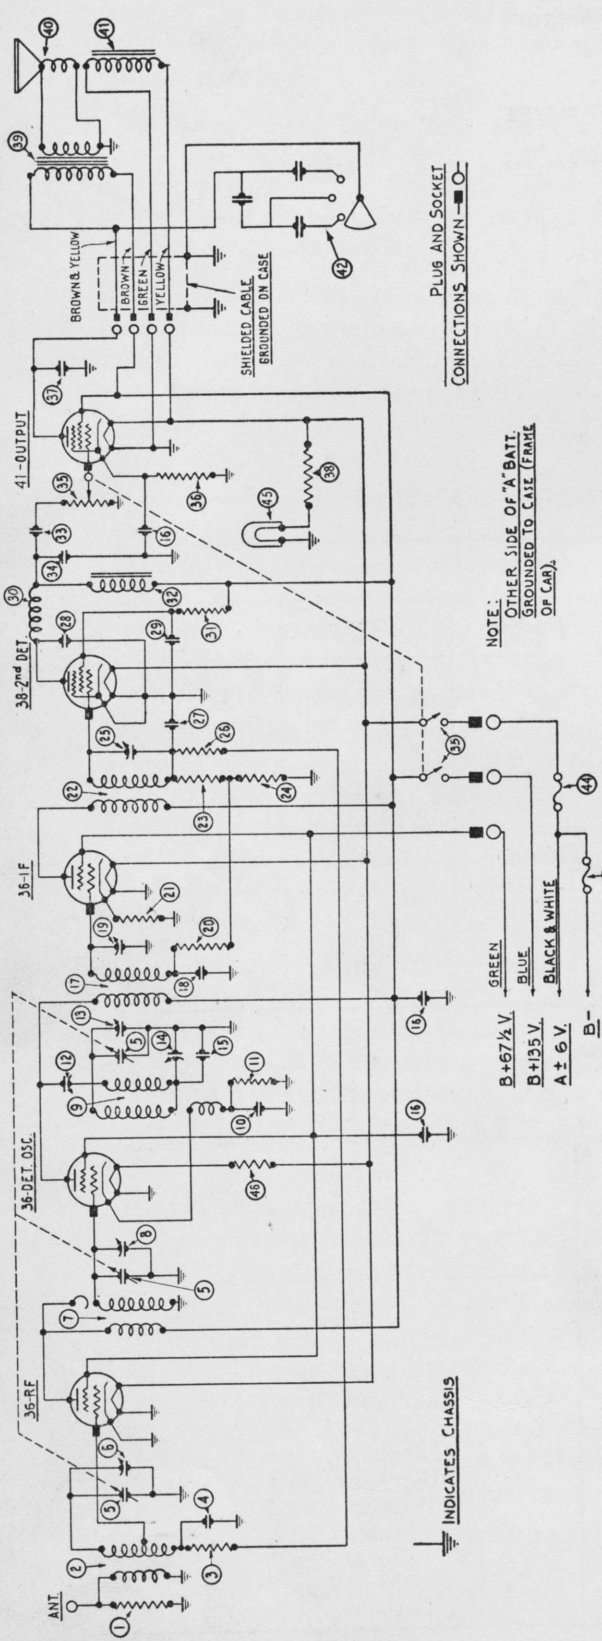
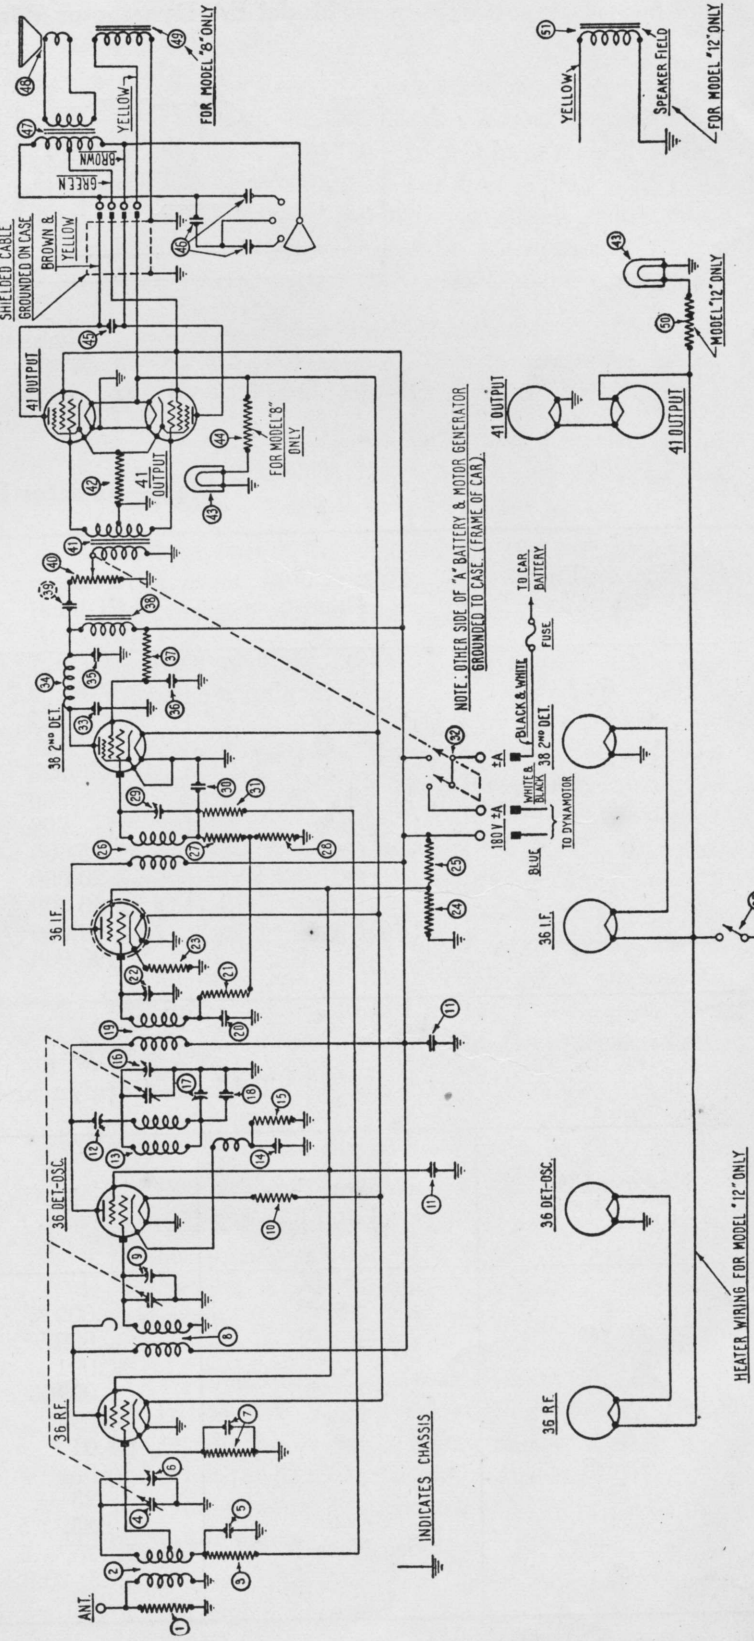

Fig. 3—Model 7—Wiring Diagram
Fig. 4—Models 8 and 12—Wiring Diagram
Using a Philco 3164 fibre wrench, adjust the second I.F. condenser. This is numbered ⑳ on figs. 3 and 5 and ㉑ on figs. 4 and 6.
Next adjust the secondary and primary I.F. condensers. These are ㉒ and ㉓ respectively on figs. 3 and 5 and ㉔ and ㉕ on figs. 4 and 6.
Low Frequency Condenser—Now tune the Receiver to 700 K. C. and adjust the condenser ㉖ on figs. 3 and 5 and ㉗ on figs. 4 and 6. During this operation the tuning condenser must be shifted and the compensators must be adjusted to bring in the maximum signal.
NOTE 2—Switch ③②, in fig. 4 is integral part of volume control ④①, part No. 7322.